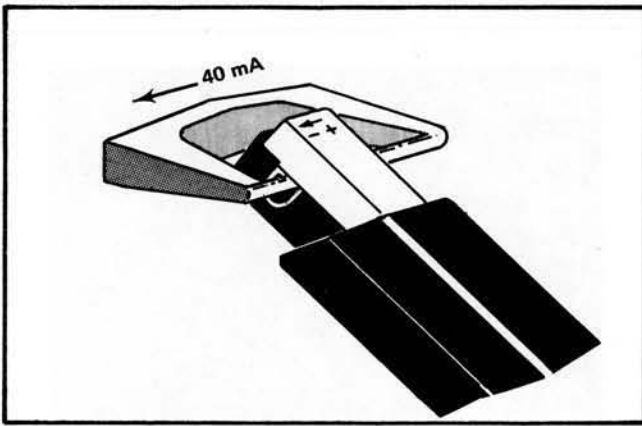

Fig. 2-2. Current flow in a conductor.
**NORM:** Conventional current flowing in the direction of the arrow on the probe (see Fig. 2-2) produces a positive deflection on the CRT.